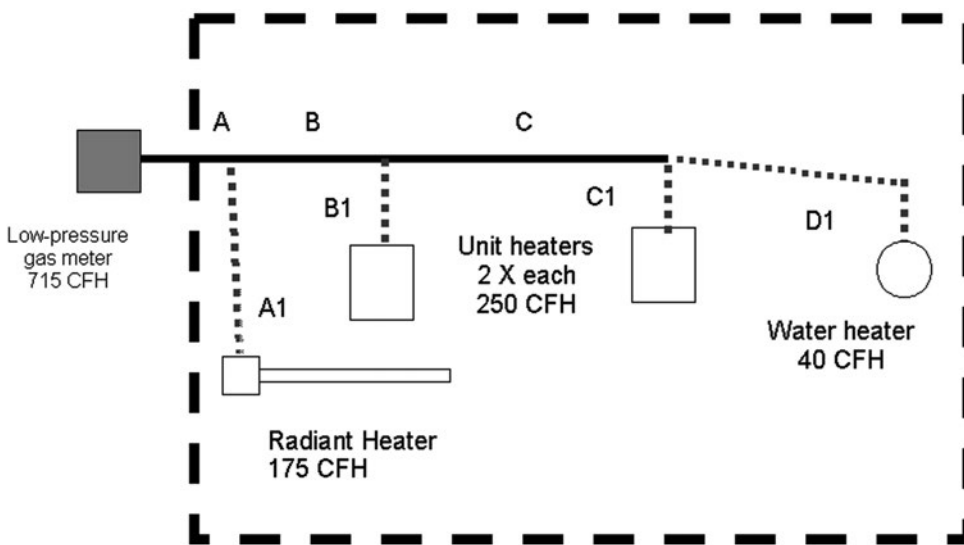

Figure: 3-5
- The system shown in Figure: 3-5 is a typical commercial building with 4 appliances. The gas pressure for this example is standard low pressure with 6-inch supply pressure and 0.5-inch pressure drop.